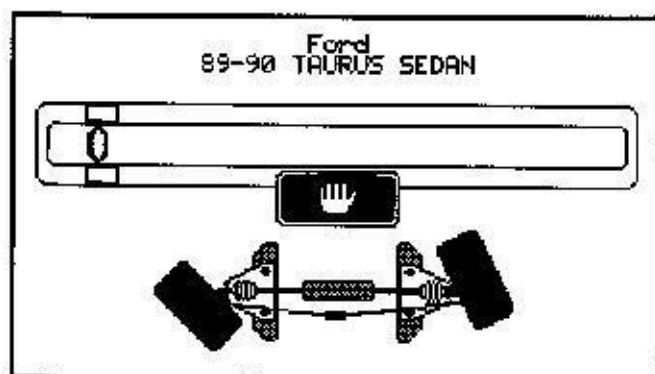

Figure 2-22
- C. The "WAIT" screen shown in Figure 2-22 will appear in the display.